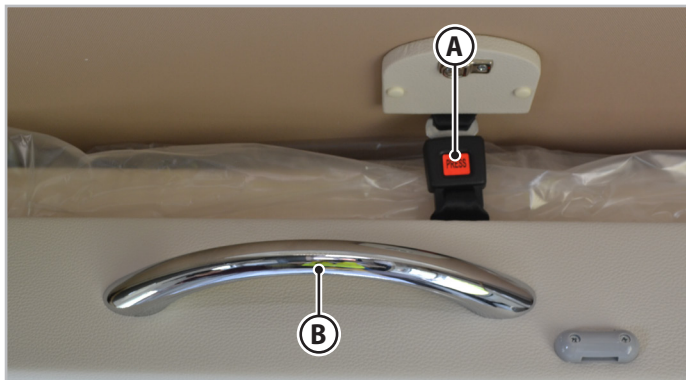

Fig. 6.18 - Front pull-down bed over dinette
1. Release the safety device (**A** - Fig.6.18).
2. Press the corresponding movement handle (**B** - Fig.6.18) and bring the bed down to the end of its stroke.
1. Press the corresponding movement handle (B - Fig.6.18) and bring the bed down to the end of its stroke.
2. Secure the bed in place again using the safety device (A - Fig.6.18).